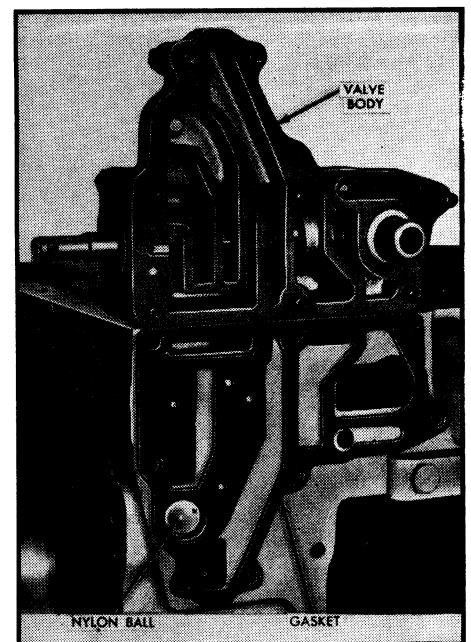

Fig. 17 Hydraulic retarder valve installation
1. Install hydraulic retarder valve body and nylon ball, Fig. 17. Tighten mounting bolts to 15-18 lb. ft.